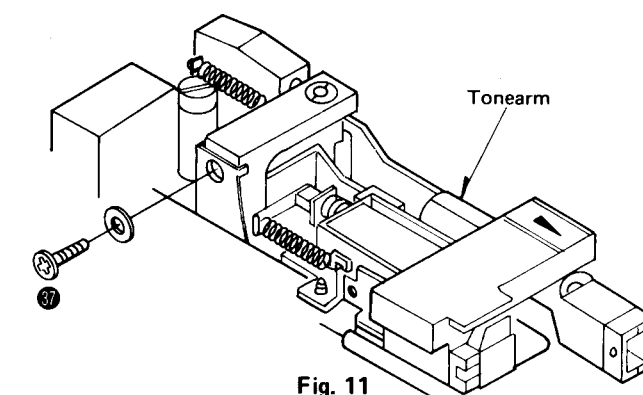

Fig. 11
5. Remove the setscrew of the tonearm. (Fig. 11 : 37)